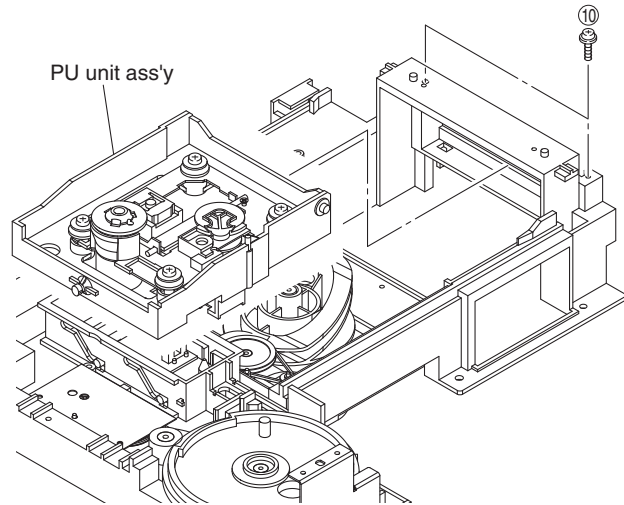

Fig. 10
- a. Remove 2 screws (10) and then remove the PU unit ass'y. (Fig. 10)